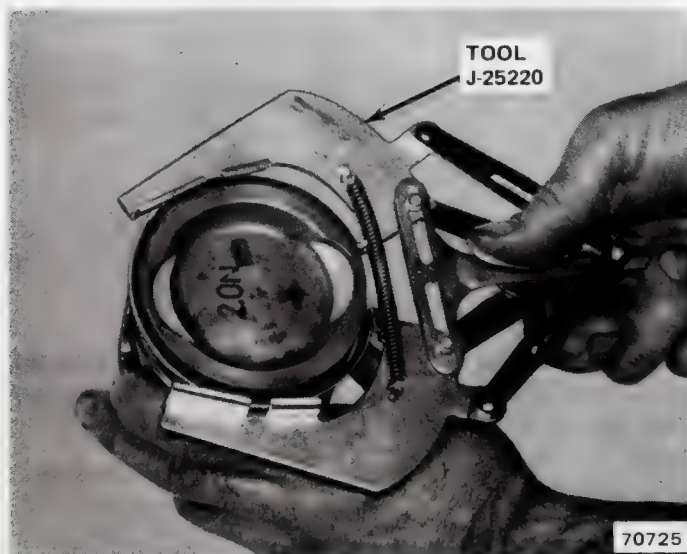

Fig. 1B-54 Compression Ring Installation
(2) Install lower compression ring using ring installer to expand ring around piston (fig. 1B-54).